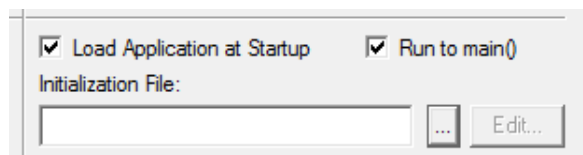

Figure 26. Load Application at Startup Settings
10. From the **Options for Target 'Demo'** dialog, select the **Load Application at Startup** checkbox, as shown in Figure 26, the so that the IDE will download the code upon connection. There is no need to select or enter an initialization file.